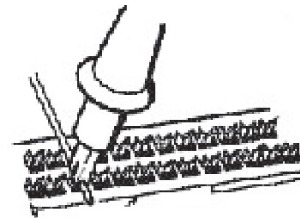

Figure 2
2. Visually line the deeper grooves of the wire insertion tool parallel to the contact. (Figure 2)